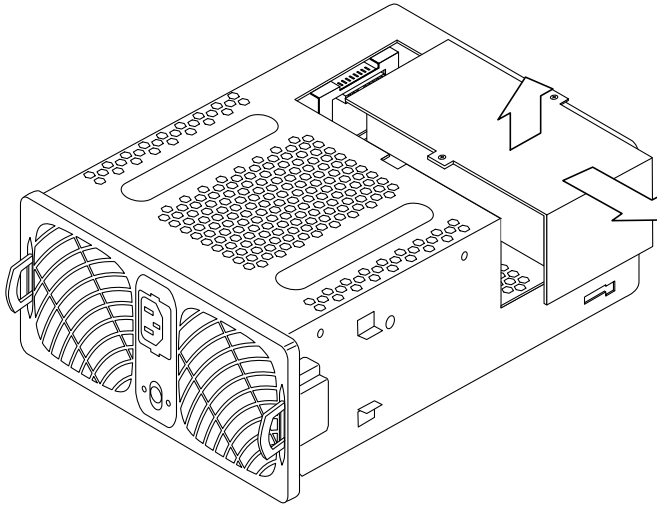
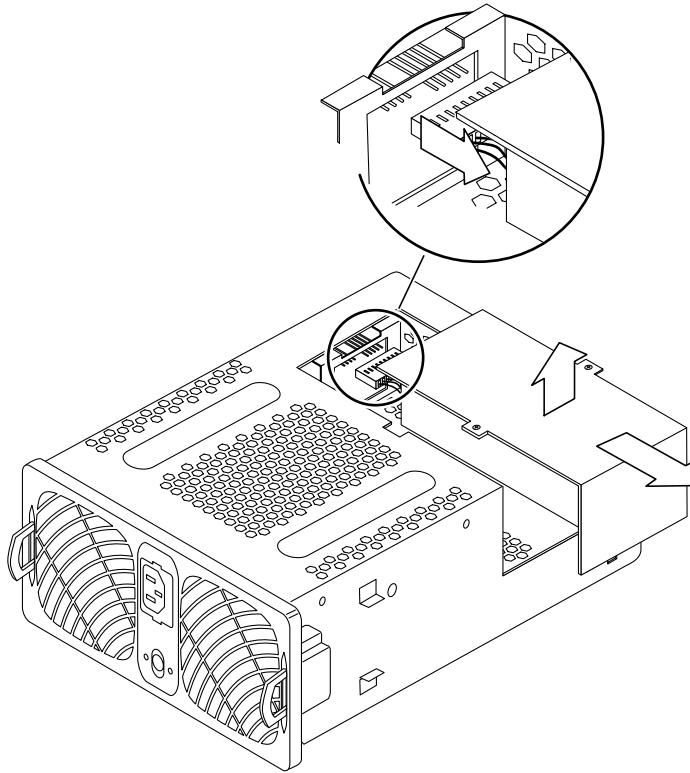

FIGURE 7-6 Lifting the PCU Bottom Panel and Battery Slightly Away from the Unit
FIGURE 7-7 The Battery Connector Details Inside the PCU
- 4. Slide the bottom panel off the unit slightly, enough to expose the battery connector as shown in FIGURE 7-6 and FIGURE 7-7.**
See FIGURE 7-7.